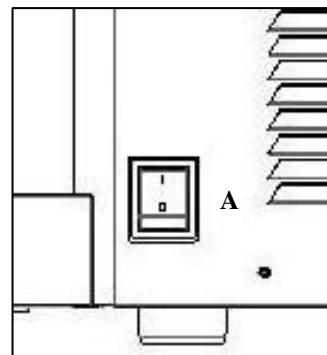

Рис. 6
- Insert the plug into the electrical power outlet and activate the main switch A on the right side of the unit (Рис. 6), the touch screen will start operating by showing the main menu and all the choice possibilities.